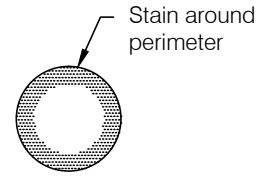

fig 2
- Step 3:** Color the perimeter of unfinished wood rail ends using a stain pen or touch-up stain, see **fig 2**.